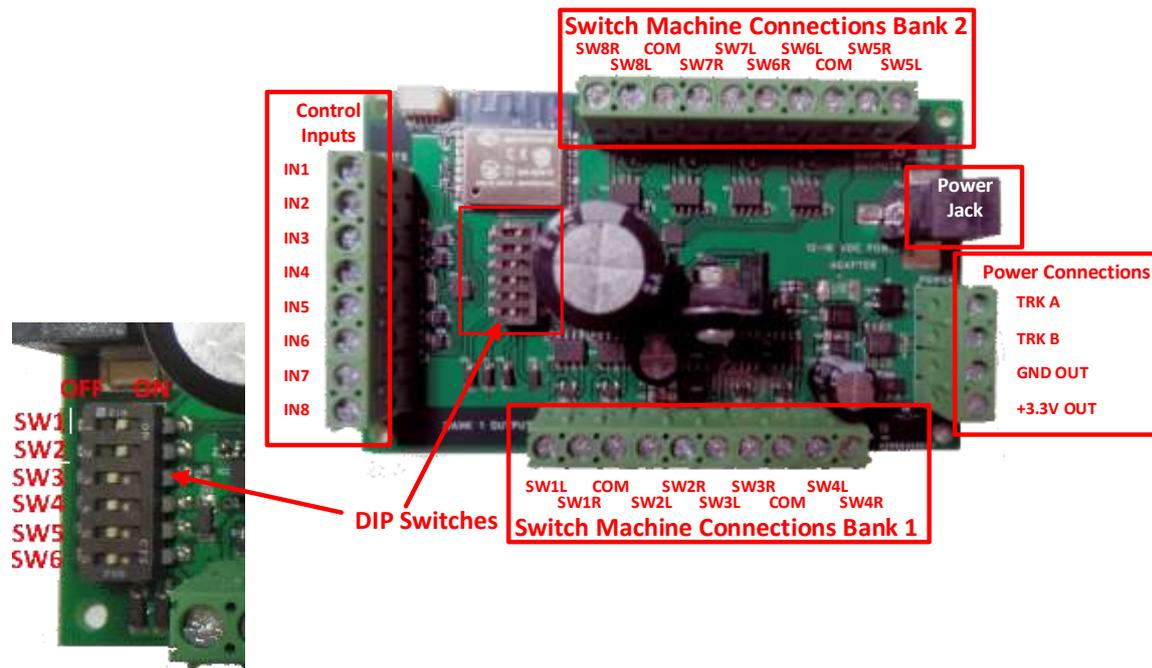
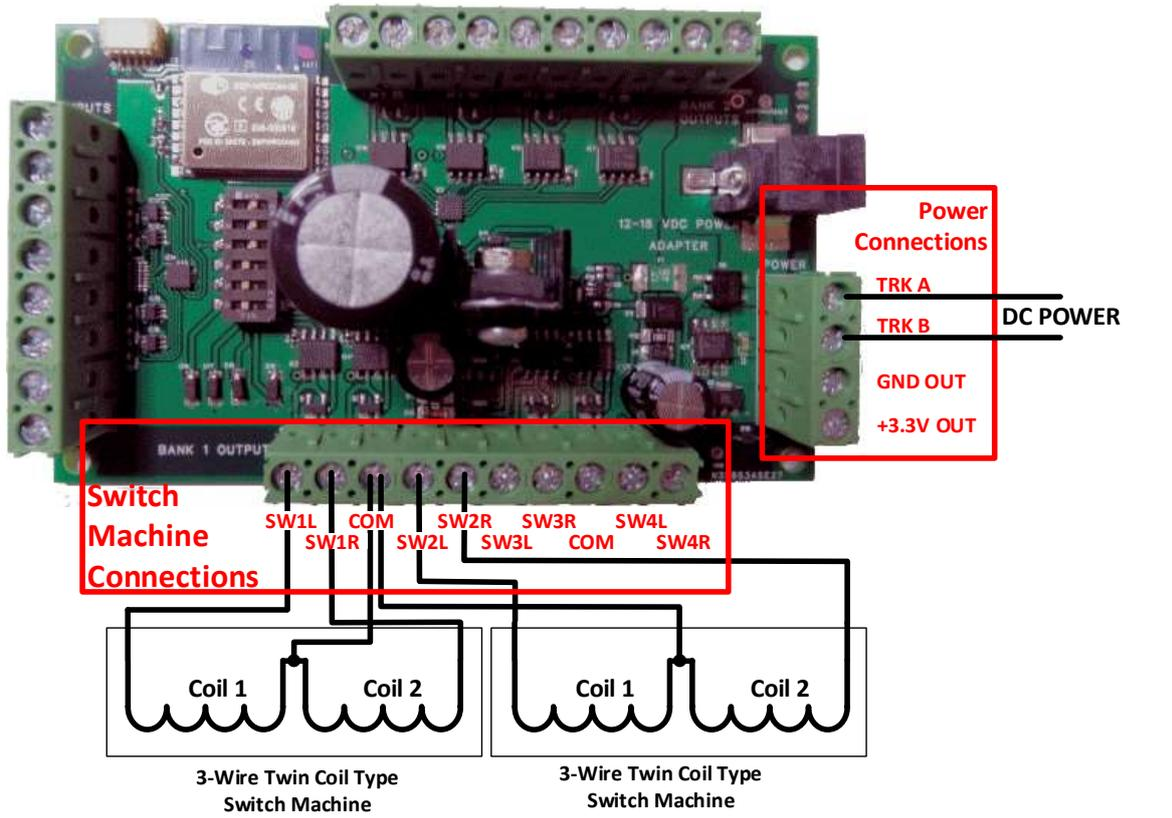
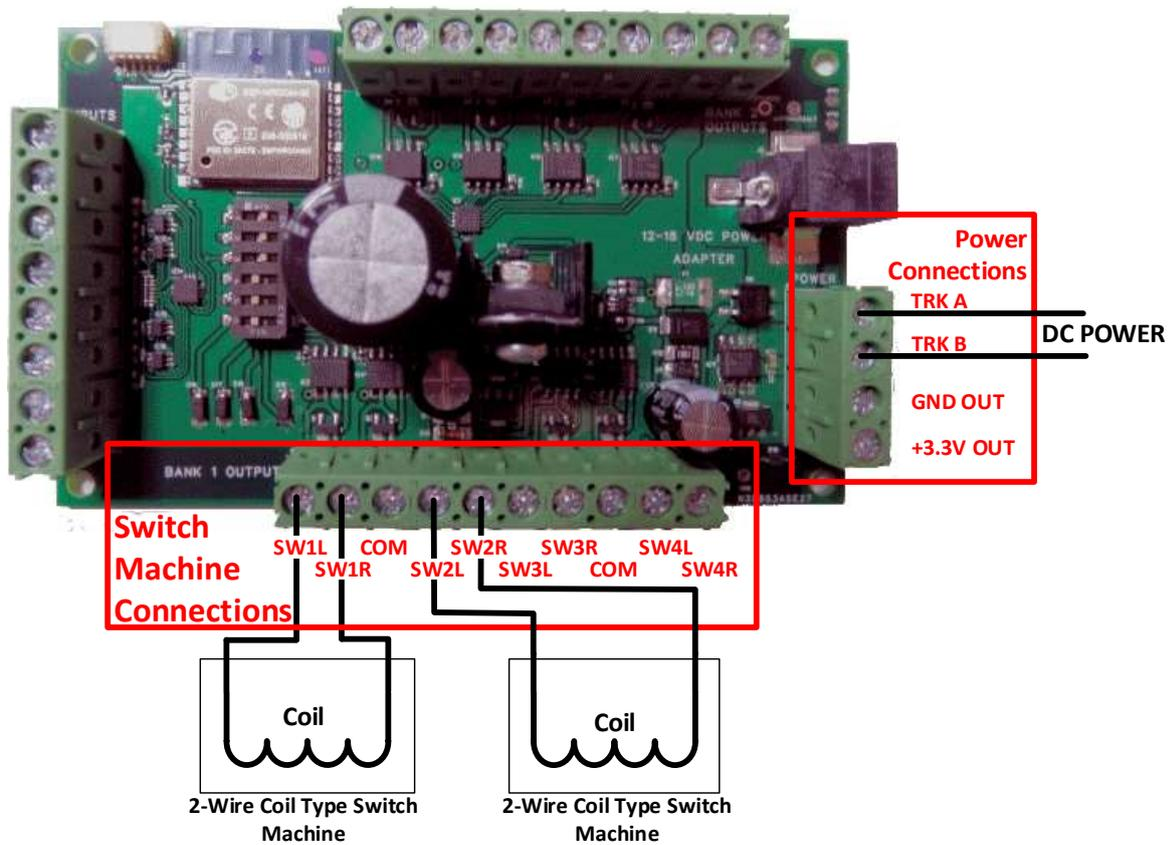
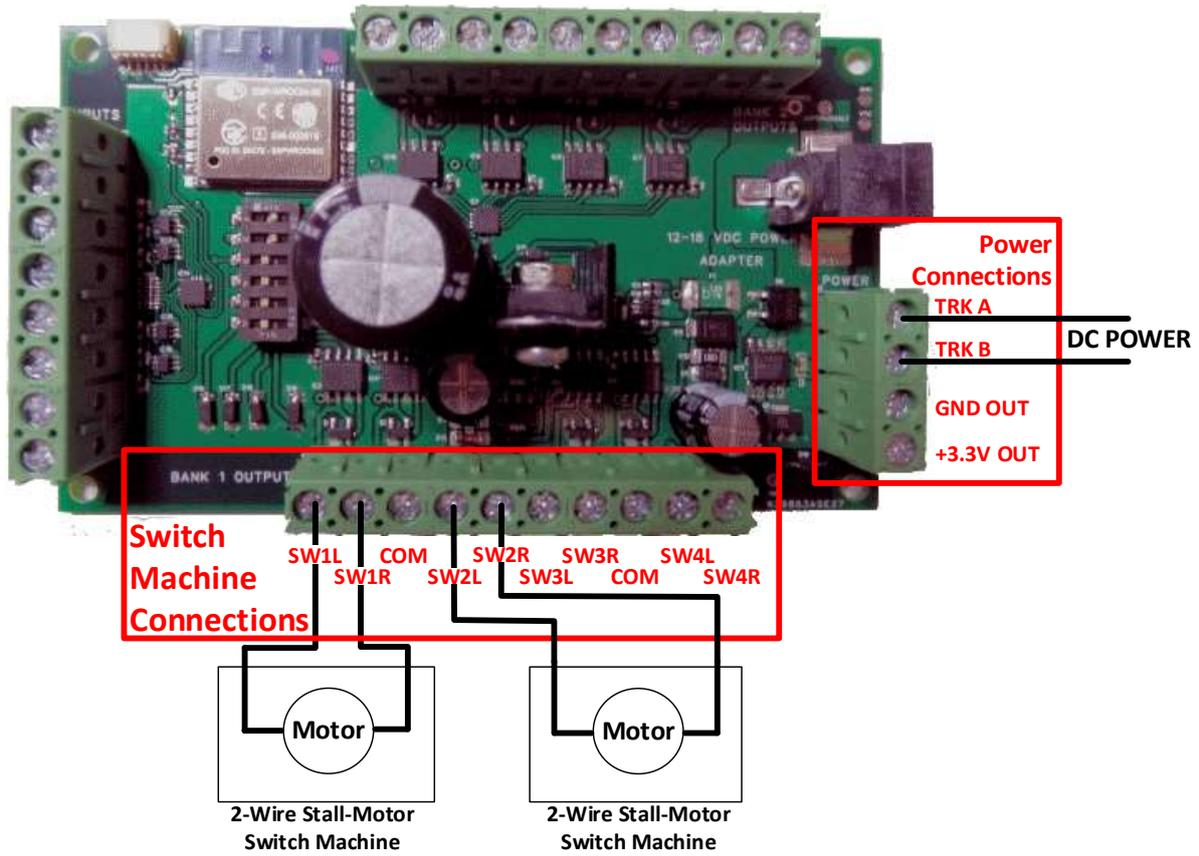

Figure 1. WFS-86 Connections
Figure 2. Connection Diagram for 3-Wire Twin Coil Switch Machines, e.g. Atlas, Peco
Figure 3. Connection Diagram for 2-Wire Coil-Type Switch Machines, e.g. Kato, LGB
Figure 4. Connection Diagram for Stall Motor Switch Machines, e.g. Tortoise
- (1) First determine what kind of switch machines you wish to control. WFS-86 will control three basic types: 3-Wire Twin Coil, 2-Wire Coil-Type (Bipolar) and Stall Motor. **Any one WFS-86 module can control EITHER Stall Motor OR Coil-type but not both.**
- (2) Figure 1 shows the WFS-86 module with its connections and switches labelled. Configure the switches on your module for your choice of switch machine type as in Table 1 and Table 2. Please take great care that SW3 is in the correct position – ON only for coil-type solenoid switch machines, OFF for stall motor like Tortoise. **If you connect the wrong type, you may damage either the switch machine or the WFS-86. Do not change any switch without first switching off the power!**
- (3) Configure switches SW4, SW5 and SW6 to provide the best output voltage for your switch machine. Some switch machines – Tortoise, for example – require that no more than 12 Volts be used.
- (4) Wire your module to the switch machines as shown in Figure 2 , Figure 3 and Figure 4. A WFS-86 can control eight switch machines. The figures show connection to Bank 1 as an example. Bank 2 are connected in a similar manner. You can use each channel or leave it unconnected. You can mix 3-Wire and 2-Wire Coil-type Switch Machines on the same unit, but if you choose the stall-motor settings, all channels must be connected to stall-motor machines or left unconnected.
- (5) Connect power to your unit at TRKA and TRKB as shown in Figure 2, Figure 3 and Figure 4. It does not matter which way round you connect the power. You can also use DCC track power but NOT AC. The power should be between 12 and 18 volts. As an alternative to the TRKA and TRKB connections, you can connect a power adapter to the Power Jack marked in Figure 1. Insertion of a power jack will disconnect TRKB. The power adapter must supply between 12 and 18 Volts DC with a Barrel Plug (2.5mm I.D. x 5.5mm O.D. x 9.5mm). A recommended power adaptor is available from WifiTrax: <http://www.wifitrax.com/products/product-PA15-43-1-detail.html>